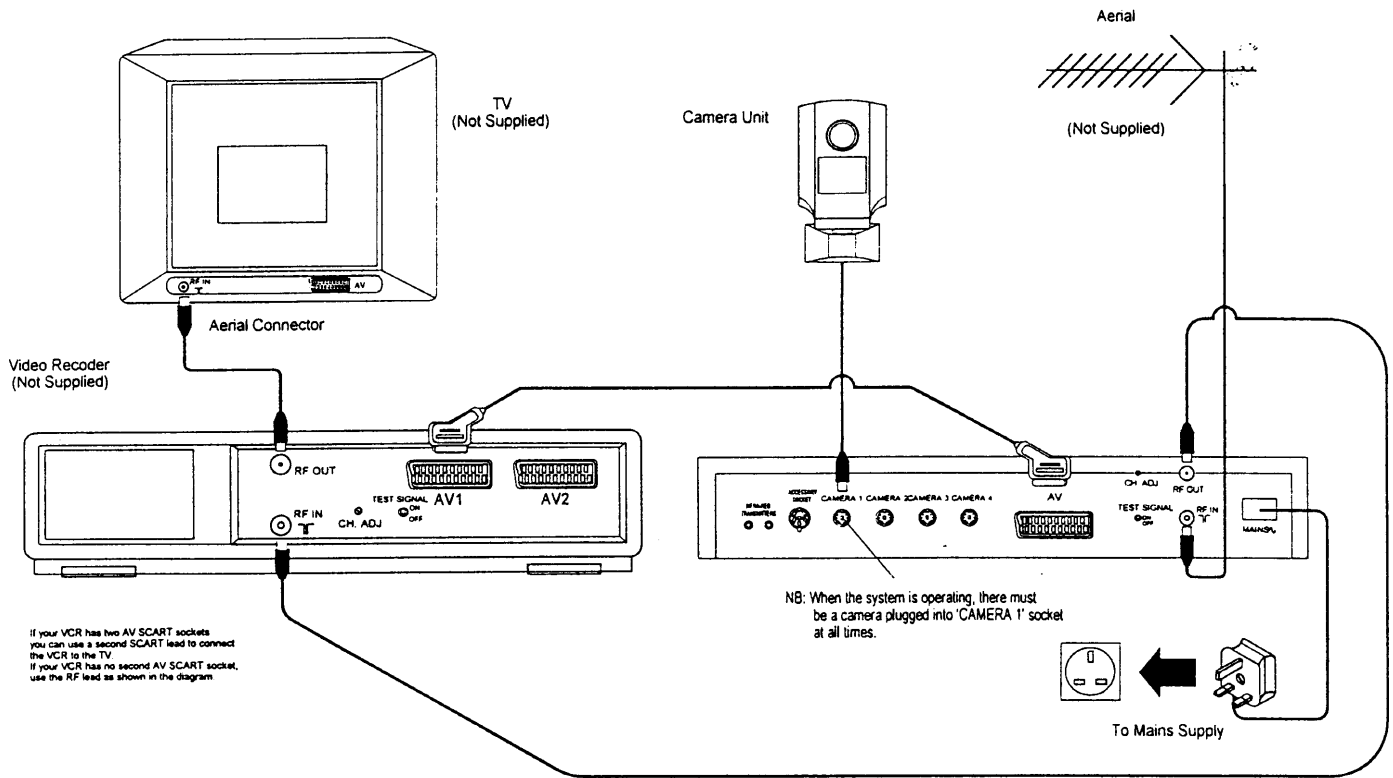

Figure 4. Connecting the Control Unit to a TV & VCR using a SCART-to-SCART lead.
- Step 1. Connect the SCART-to-SCART lead to the Control Unit, and to your VCR (see figure 4).